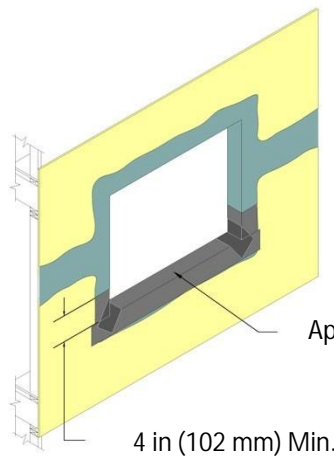

Fig. 11
- 3) Apply Dryvit AquaFlash System at sill in accordance with Sections IV.A.3. NOTE: AquaFlash System must extend up the jambs a minimum of 4 in (102 mm) – Figure 11.